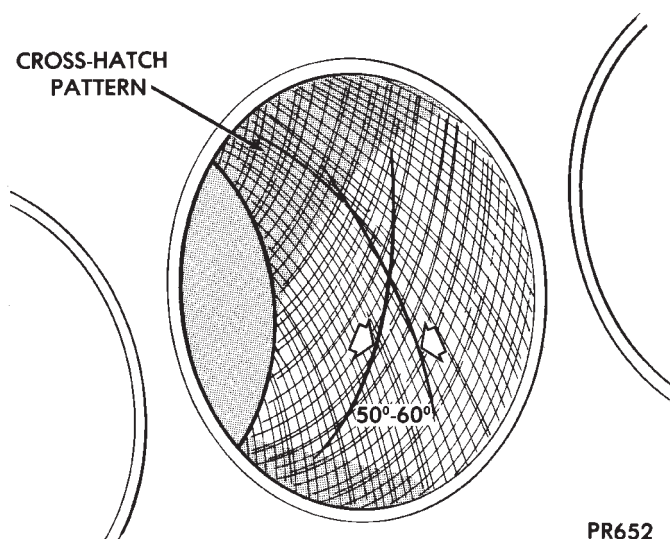

Fig. 1 Cylinder Bore Cross-Hatch Pattern
(1) Used carefully, the cylinder bore resizing hone C-823 equipped with 220 grit stones, is the best tool for this job. In addition to deglazing, it will reduce taper and out-of-round as well as removing light scuffing, scoring or scratches. Usually a few strokes will clean up a bore and maintain the required limits.
(2) Deglazing of the cylinder walls may be done using a cylinder surfacing hone, Tool C-3501, equipped with 280 grit stones (C-3501-3810) if the cylinder bore is straight and round. 20-60 strokes depending on the bore condition will be sufficient to provide a satisfactory surface. Inspect cylinder walls after each 20 strokes. Using a light honing oil available from major oil distributors. **Do not use engine or transmission oil, mineral spirits or kerosene.**
(3) Honing should be done by moving the hone up and down fast enough to get a cross-hatch pattern. When hone marks **intersect** at 50-60 degrees, the cross hatch angle is most satisfactory for proper seating of rings (Fig. 1).
(4) A controlled hone motor speed between 200-300 RPM is necessary to obtain the proper cross-hatch angle. The number of up and down strokes per minute can be regulated to get the desired 50-60 degree angle. Faster up and down strokes increase the cross-hatch angle.